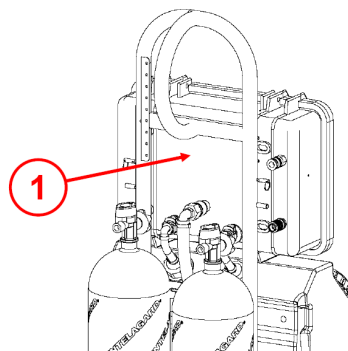

Figure 2.1 – Merlin Serial Number Location
2.2 Serial Number Locations. The serial number is located on the back of the Power Module, centered above the mounting bracket as shown in Figure 2.1. Take the time to write down your new system's information here. The air cylinder serial number is located on the data label affixed to the cylinder.